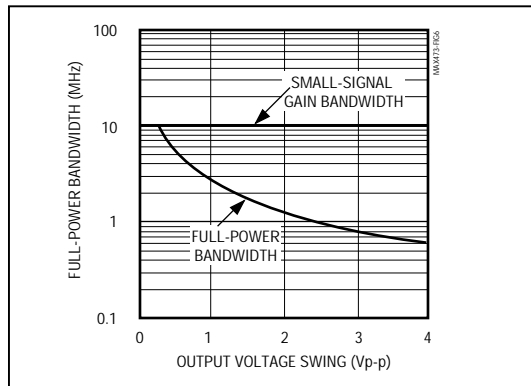

Figure 6. Full-Power Bandwidth vs. Peak-to-Peak AC Voltage
where the slew rate (SR) is 15V/μs min. Figure 6 shows the full-power bandwidth as a function of the peak-to-peak AC output voltage.